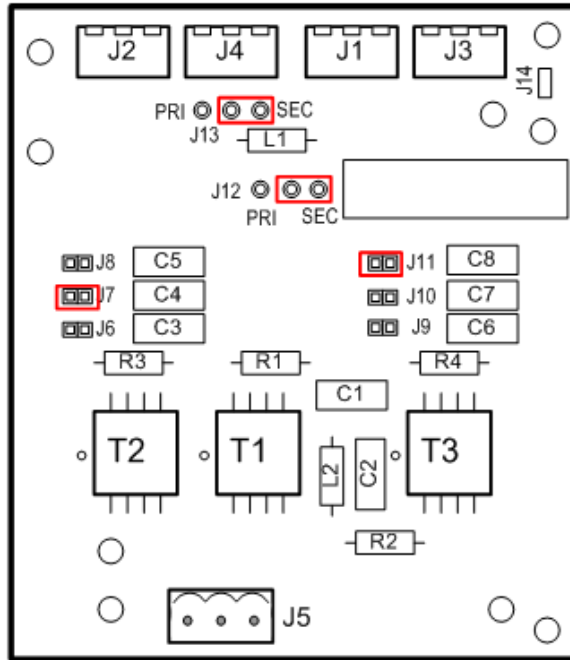

Figure 12 SSB Coupler Board Jumper Settings
- Step 4:** Inspect wiring and connections, confirm coupler board jumper settings (see *Figure 12 SSB Coupler Board Jumper Settings*).